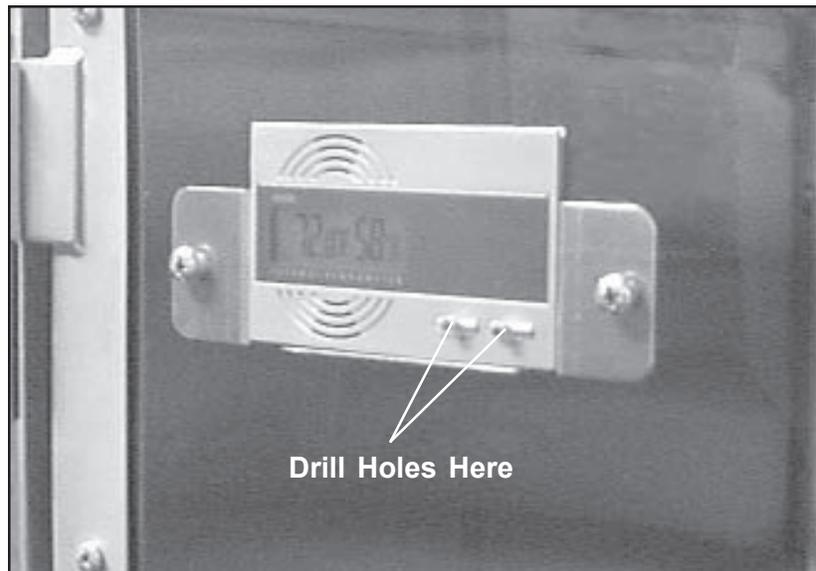

Figure 26. Drilling Button Access Holes
7. With a 1/16 in. bit, drill two holes in the door at the locations marked in *Step 5* (Figure 26). This will provide easy access to the buttons on the front of the gauge.